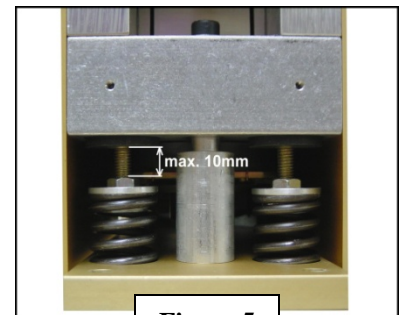

Figure 5
- E. Do not turn the nuts too far or you may damage the system. Under no circumstances should there be over 10 mm of exposed threads (see Figure 5).